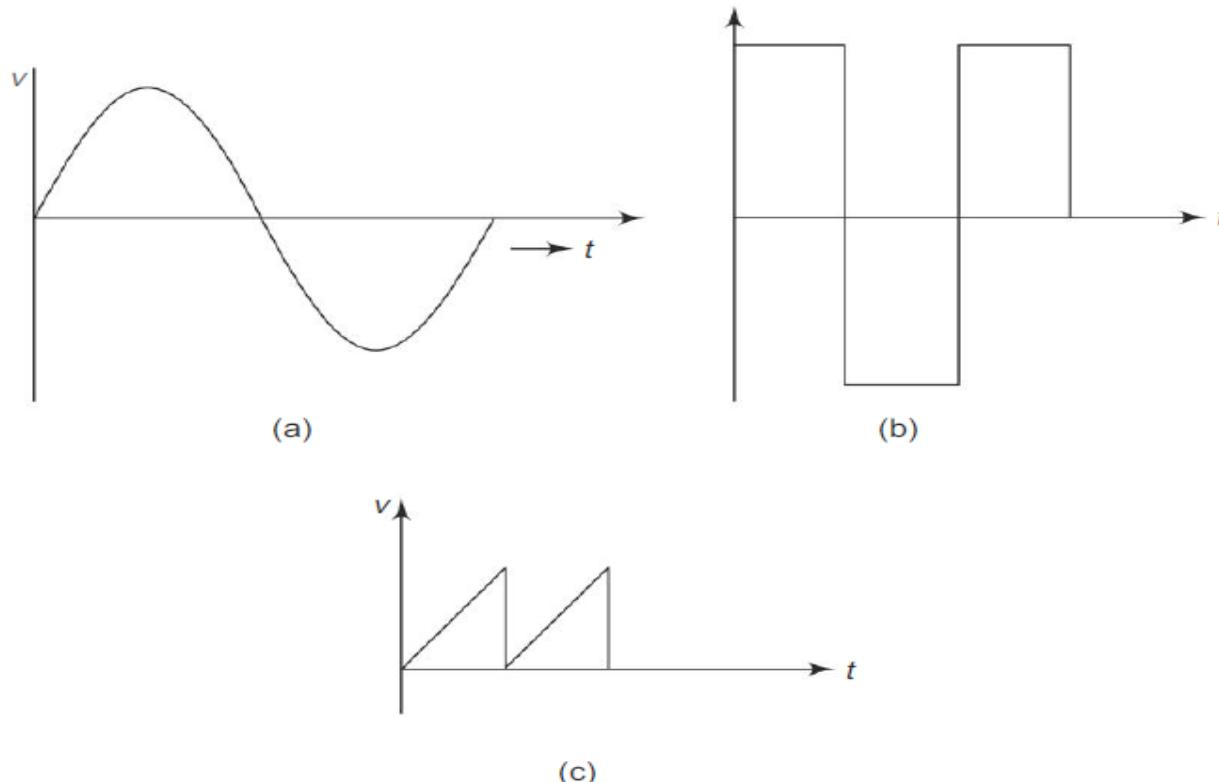

Fig. 4.3 (a) Sinusoidal waveform (b) Rectangular waveform (c) Sawtooth waveform
**1. Waveform** A waveform is a graph in which the instantaneous value of any quantity is plotted against time. Examples of waveforms are shown in Fig. 4.3.
**2. Alternating Waveform** This is a wave which reverses its direction at regularly recurring intervals, e.g. Fig. 4.3(a).